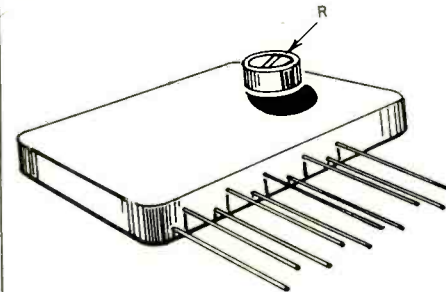
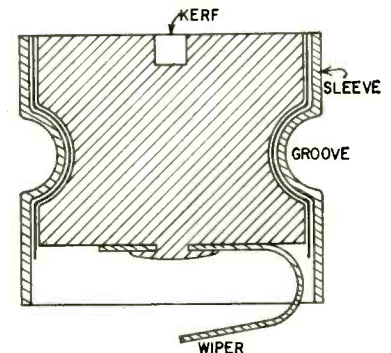

Fig. 1
Fig. 2
The resistor (R) is shown on an assembly (Fig. 1). Fig. 2 shows details of the rotor and wiper.